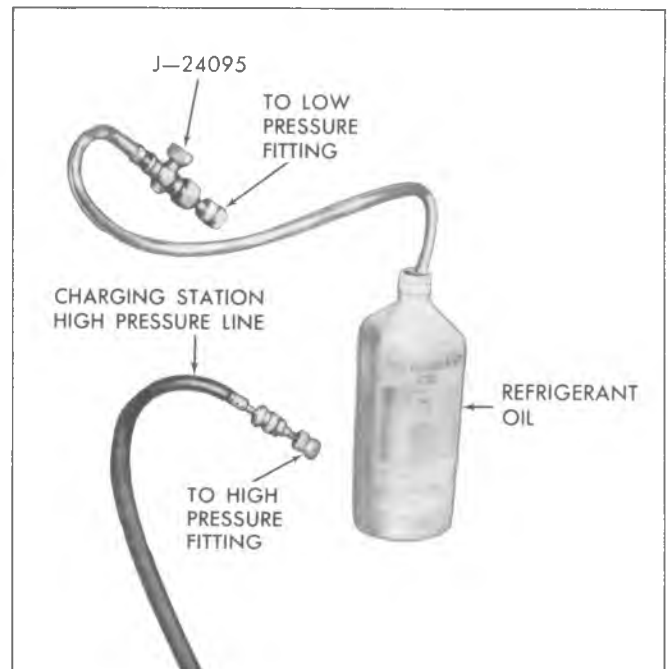

Fig. 28—Adding Refrigerant Oil Using Tool J/24095
- a. Disconnect low pressure line at POA valve. Install Tool J-24095 (with valve closed) onto suction fitting on POA valve. Insert pick-up tube into graduated container of clean refrigerant oil (Fig. 28).